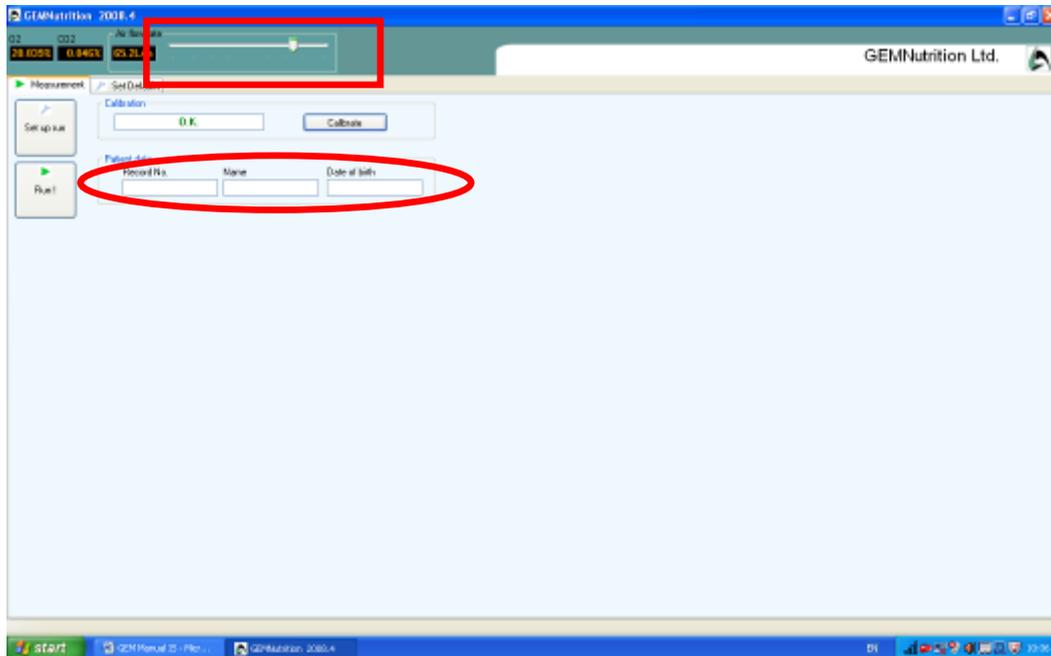

Figure 6. Participant details.
9. In order to save participant results enter some participant details into the "record number", "name" and "date of birth" boxes (circled red in figure 6).
You need to adjust the flow rate by moving the sliding bar (outlined in red in figure 6) until the FeCO_2 value reads approximately 0.5. For adults 38-45L/m is usually satisfactory.